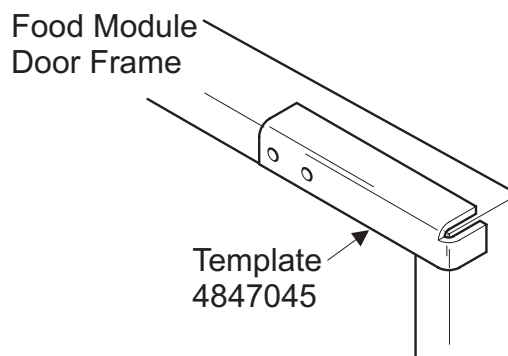

Figure 1
2. Using Door Guide Template 4847045 drill two 9/64" holes in the face of the door frame (figure 1). Be careful not to drill completely through the door.
3. Attach the Door Guide 4847022, with two (2) 8-32 x .31 thread forming hex head screws 1451097 (figure).